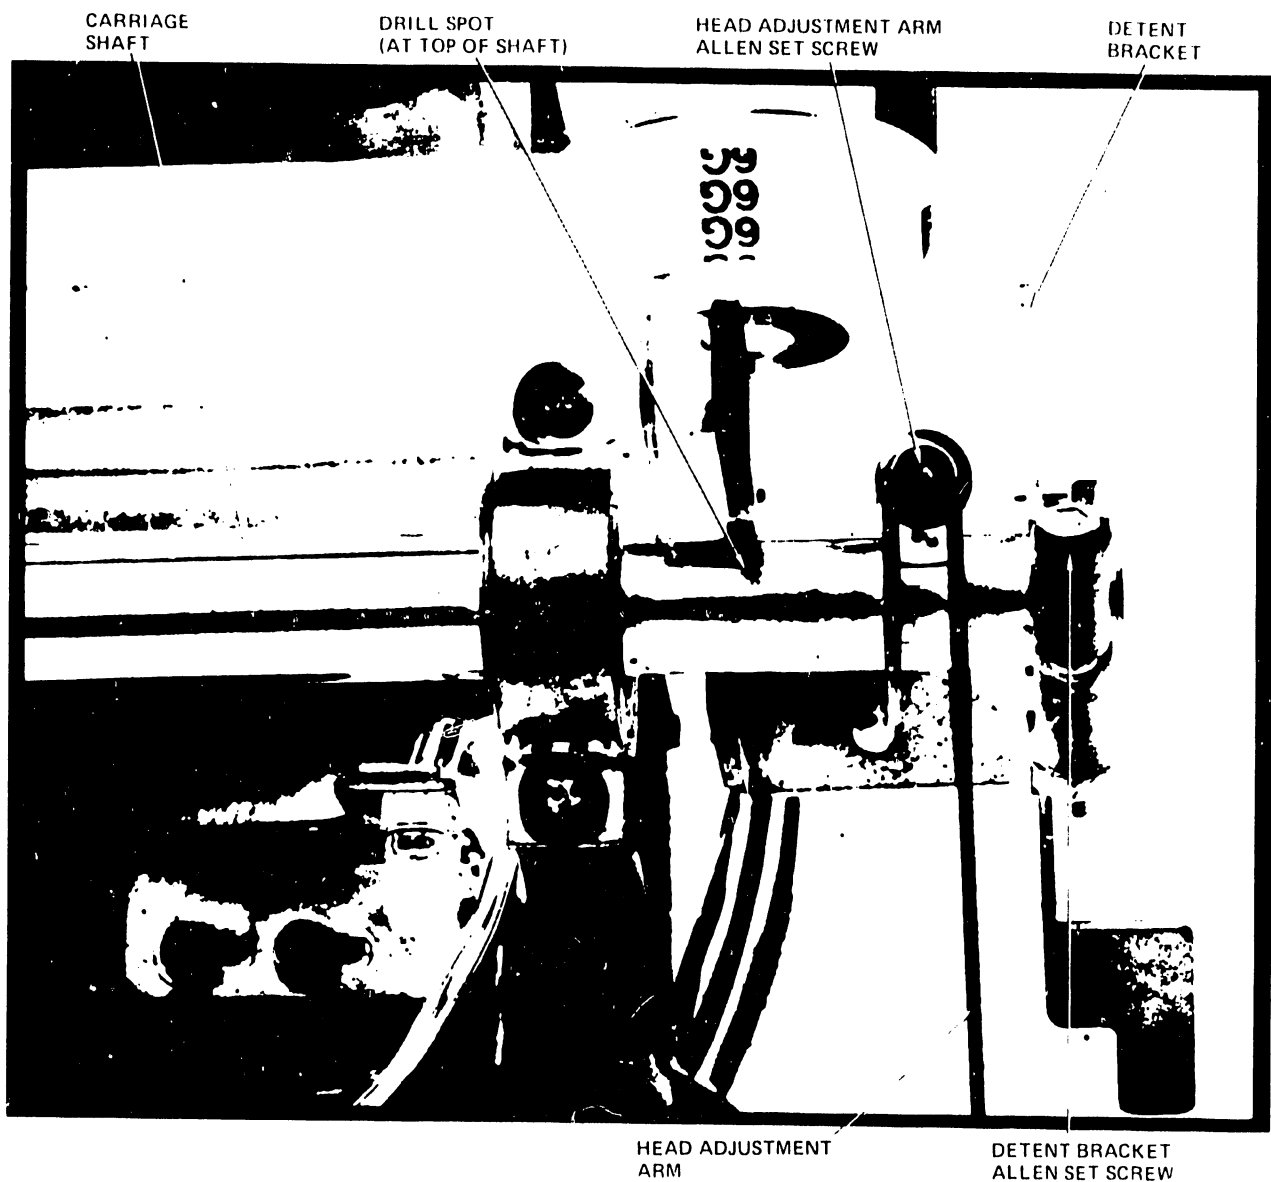

Figure 5-51. Carriage Shaft Alignment
3. Locate the drill spot on the carriage shaft (approximately 1 1/2" from the right end of the shaft). If the carriage shaft is aligned correctly, the drill spot should now be located precisely at the top of the shaft. If it is not, perform the carriage shaft alignment. See Figure 5-51.
3. Move the head adjustment arm as necessary to position the drill spot exactly at the top of the carriage shaft; then tighten down the Allen set screw on the detent bracket. See Figures 5-51 and 5-52.